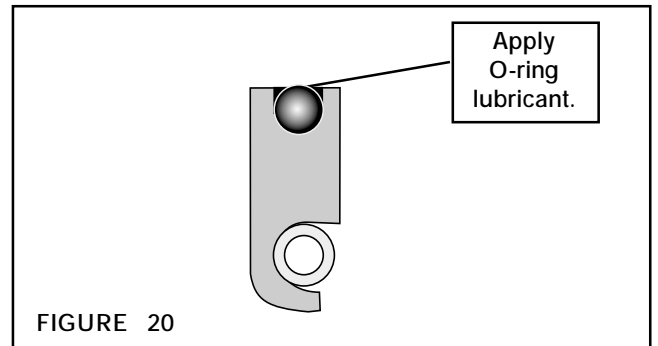

FIGURE 20
16. Coat the outer seal of the Variseal™ with a thin film of O-ring lubricant (See Figure 20).